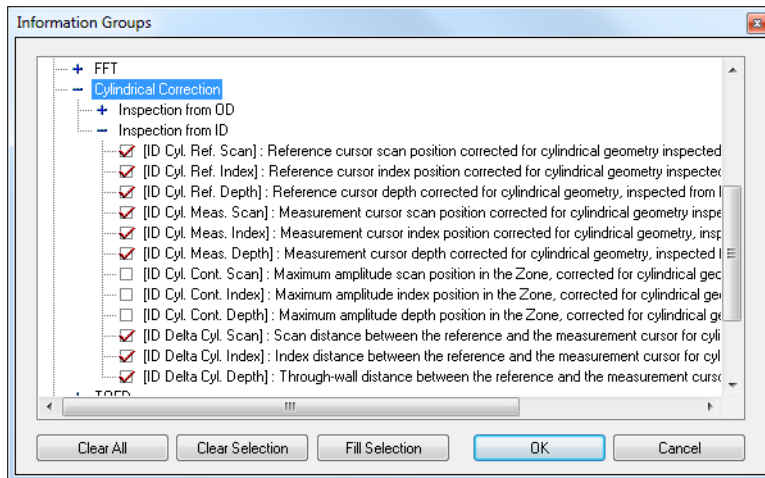

Figure 7-69 Selection of ID-related parameters
1. Make sure that at least the reference (red) cursor is present in the VC-End (D) view before activating the cylindrical correction.
2. In the VC-End (D) view, select the applicable information fields (either OD- or ID-related) as follows:
- a) Click in the VC-End (D) view to make it the active view.
- e) From the **Cylindrical correction** group, double-click to select the applicable information check boxes (see example in Figure 7-69 on page 410 showing a selection of ID-related parameters).